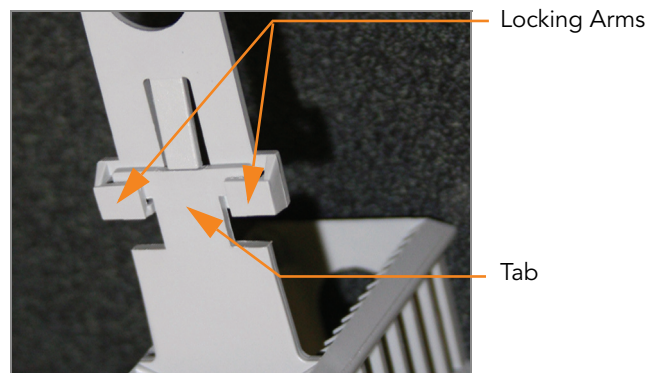

Figure 181 Staining Rack Locking Arms and Tabs
5. Submerge the unloaded staining rack into the wash dish with the locking arms and tab facing **towards** you (Figure 181). This orients the staining rack so that you can safely remove the BeadChips.